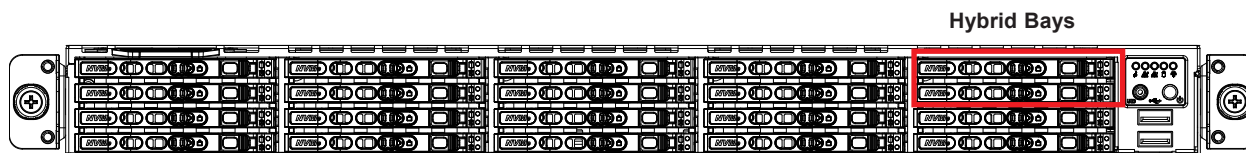

Figure 3-4. Drive Bays
- **IPMI > Server Health > NVMe SSD** – Shows the temperatures of all NVMe drives, as in Figure 3-4.